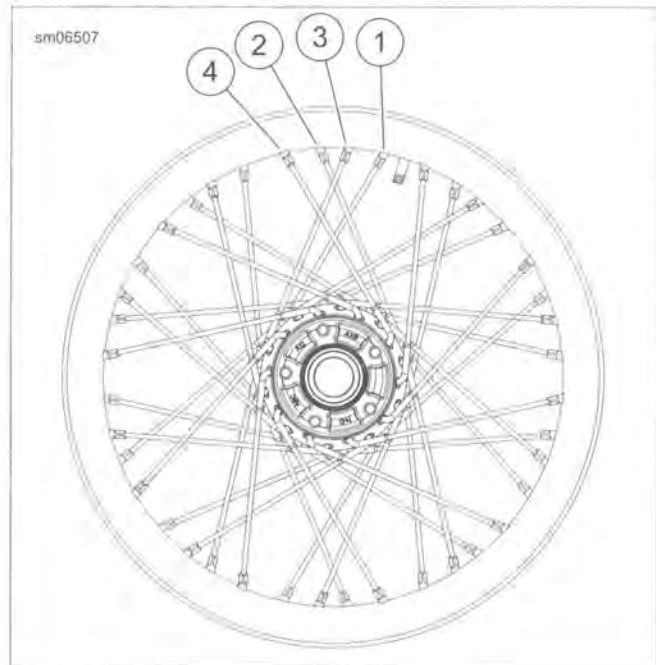

Figure 1-12. Tightening Laced Wheels (typical)
2. See Figure 1-12. Starting at the valve stem, identify the first group of four spokes (1-4).
1. See Figure 1-12. Starting with the first group of spokes, loosen spoke (1) one-quarter turn using SPOKE NIPPLE WRENCH (Part No. HD-94681-80).
2. Using SPOKE TORQUE WRENCH (Part No. HD-48985) tighten spoke (1) to the value listed in Table 1-8.
3. Repeat previous two steps for spoke (4) in the same group.